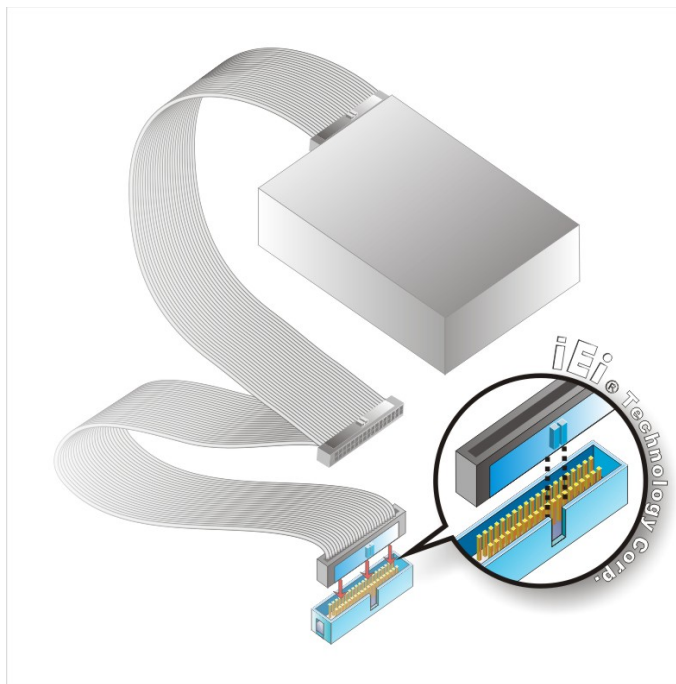

Figure 5-9: IDE Cable Connection
Step 5: Insert the connector. Connect the IDE cable connector to the onboard connector. See Figure 5-9. A key on the front of the cable connector ensures it can only be inserted in one direction.